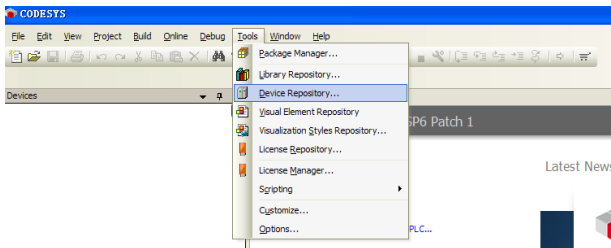

Figure 3-1
1. Open CODESYS V3.5 SP6, and choose **Tools -> Device Repository**, as shown in Figure 3-1. If **Device Repository** is not displayed, you can choose **Options** to set it to be displayed.